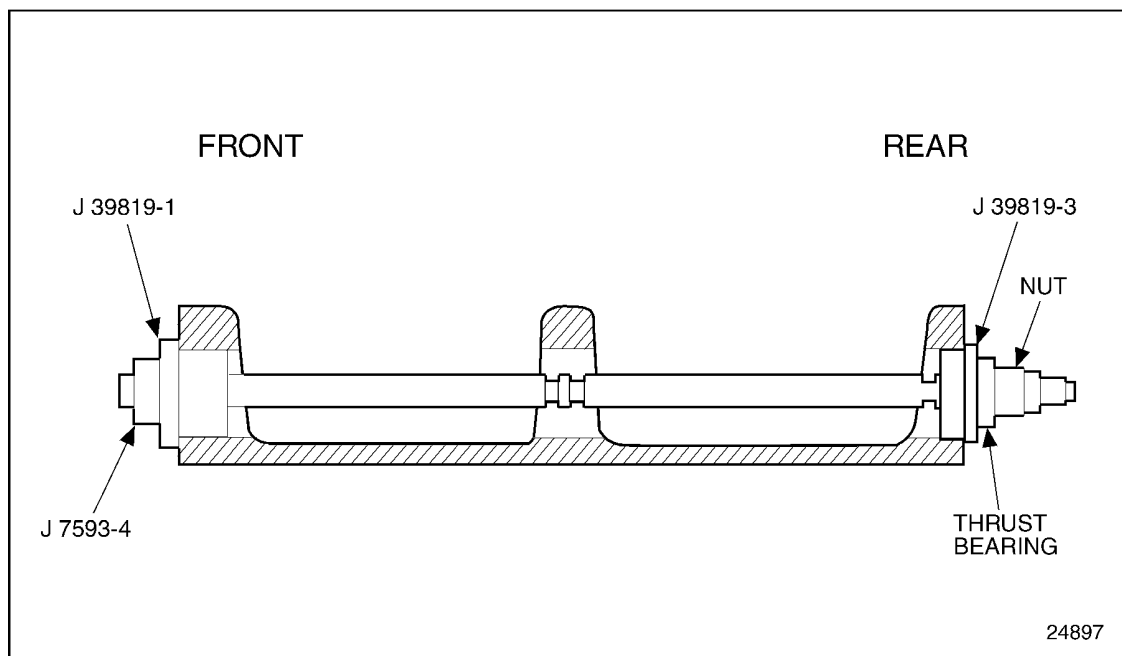

Figure 1-379 Install Front Bushings
1. Place C-washer J 7593 and bushing installer J 39819-1 onto the end of shaft J 39819-5 and position a new bushing on the installer. Insert the shaft completely through the cradle from the front. See Figure 1-379.